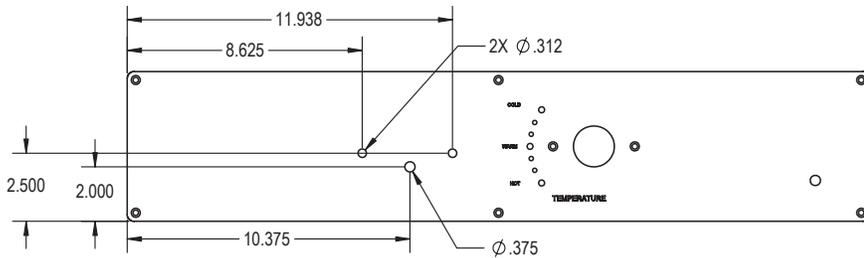

Figure 8: Drill hole dimensions
6. Prepare both headers to receive the IR sensors and their housings. Drill 3 holes in each header using the dimensions in Figure 8.